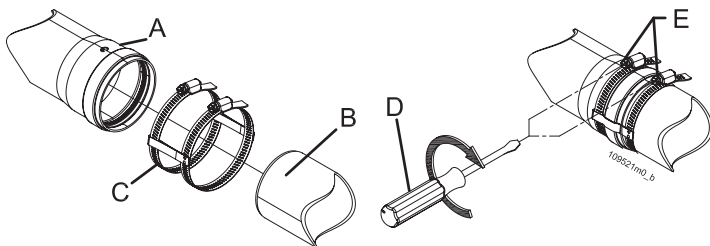

Figure 5-30 – Fixing the exhaust and intake pipes
**WARNING!** Mechanically secure the joints between the various component elements of the exhaust pipe, using fixing systems or similar. See figure 5-30